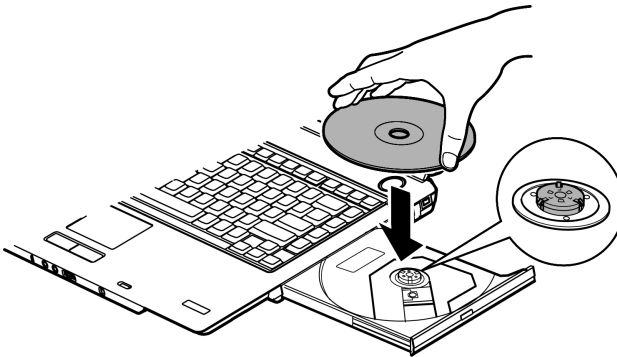

Figure 4-6 Inserting a CD/DVD
**Note:** When the drawer is fully opened, the edge of the computer will extend slightly over the CD/DVD tray. Therefore, you will need to turn the CD/DVD at an angle when you place it in the tray. After seating the CD/DVD, however, make sure it lies flat, as shown in figure 4-6.